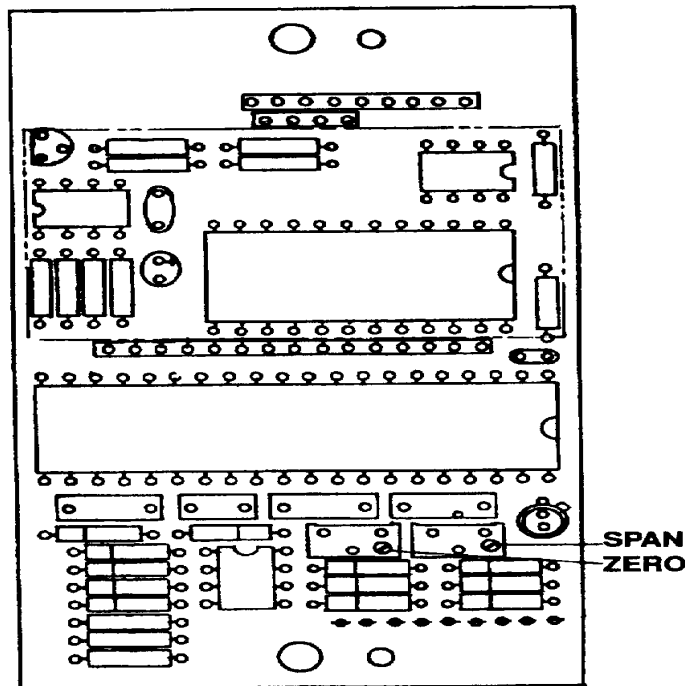
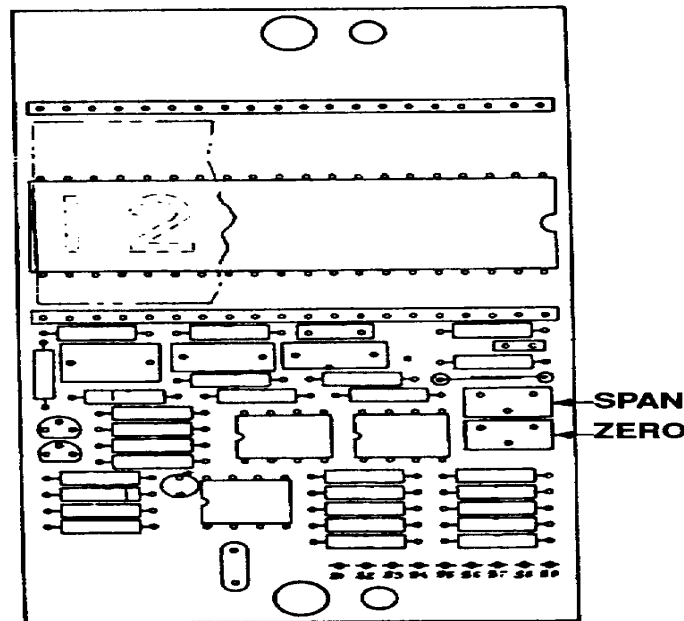

Figure 3. Consolidated Devices, Models DPT 1200 and DPT 1200R -adjustment locations.
Figure 4. Consolidated Devices, Models DPT2500 and DPT-2500R - adjustment locations.
It should not be necessary to adjust internal ZERO (fig. 3 and fig. 4) unless circuit board is repaired.
(1) Operate crank cw to obtain an indication of 800 ft-lbs (1200 ft-lbs for Consolidated Devices, Models DPT-2500 and DPT-2500R) on load cell indicator.
(2) Adjust SPAN screw (fig. 3 and fig. 4) for an indication of 800 ft-lbs (1200 ft-lbs for Consolidated Devices, Models DPT-2500 and DPT-2500R) on digital display (R).
(3) Repeat (1) and (2) above two times and adjust, if necessary.
(4) Repeat **12a** above.